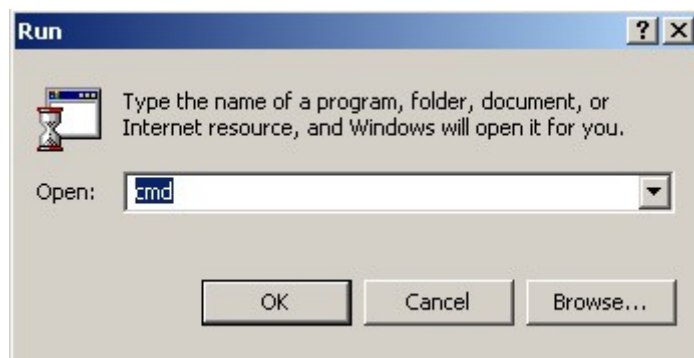

Fig. 3.1.14 Enter into command
Step 1: Click “Start” and “RUN” in WINGDOWS, the dialogue box like Fig. 3.1.14 will appear:
Step 2: Input “cmd” in the dialogue box as Fig. 3.1.14 to enter into command window.